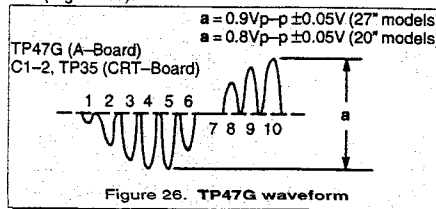

Figure 26. TP47G waveform
3. Select DAC Sub-Color Adjustment (B0) and adjust for peak to peak amplitude to be 0.8V p-p  $\pm$  0.05V (20" models) or 0.9V p-p  $\pm$  0.05V (27" models) (Figure 26).